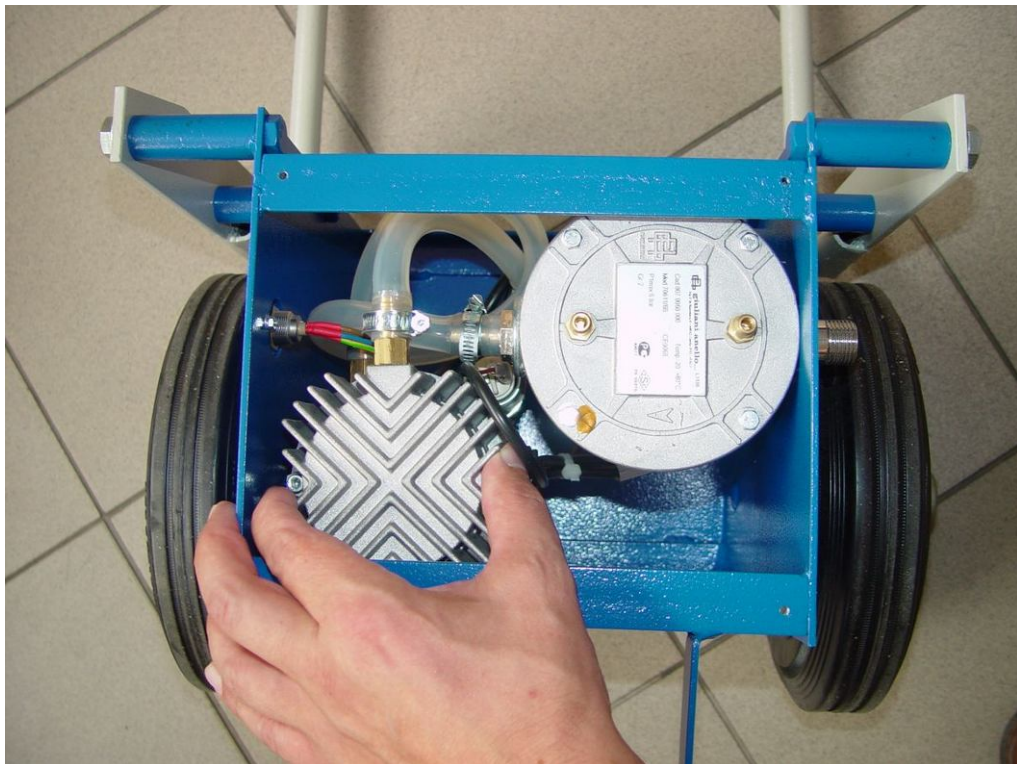

Figure 3.3 – Removing the pump lid
3.4.3 Unscrew screws and remove the pump lid (see Figure 3.3).